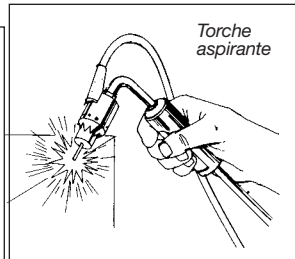

Figure 20.7
- 2) la torche aspirante (figure 20.7)